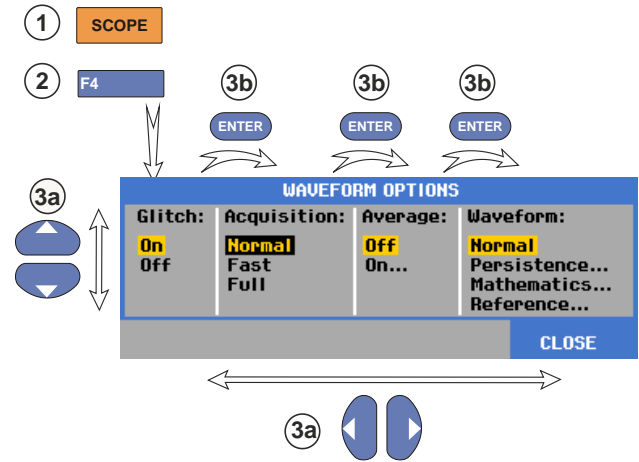

Figure 4. Basic Navigation
**2** **F4** Open the Waveform Options menu. This menu is displayed at the bottom of the screen. Actual settings are shown on a yellow background. The setting on a black background can be changed upon operation of the blue arrow keys and confirmed with the ENTER key. See Figure 4.